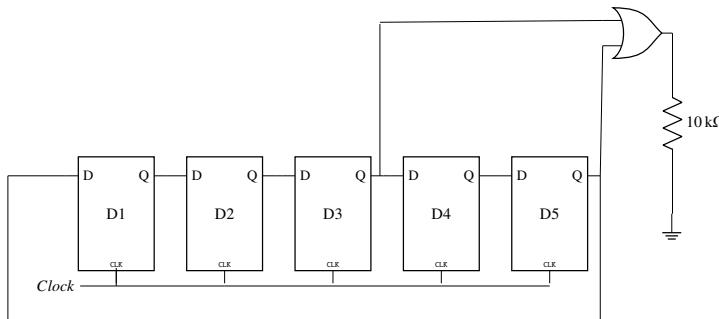

Fig. 5.26
26. Assume that all the digital gates in the circuit shown in Fig. 5.26 are ideal, the resistor $R=10k\Omega$ and the supply voltage is 5V. The D flip-flops D_1, D_2, D_3, D_4 and D_5 are initialized with logic values 0, 1, 0, 1, and 0, respectively. The clock has a 30% duty cycle.